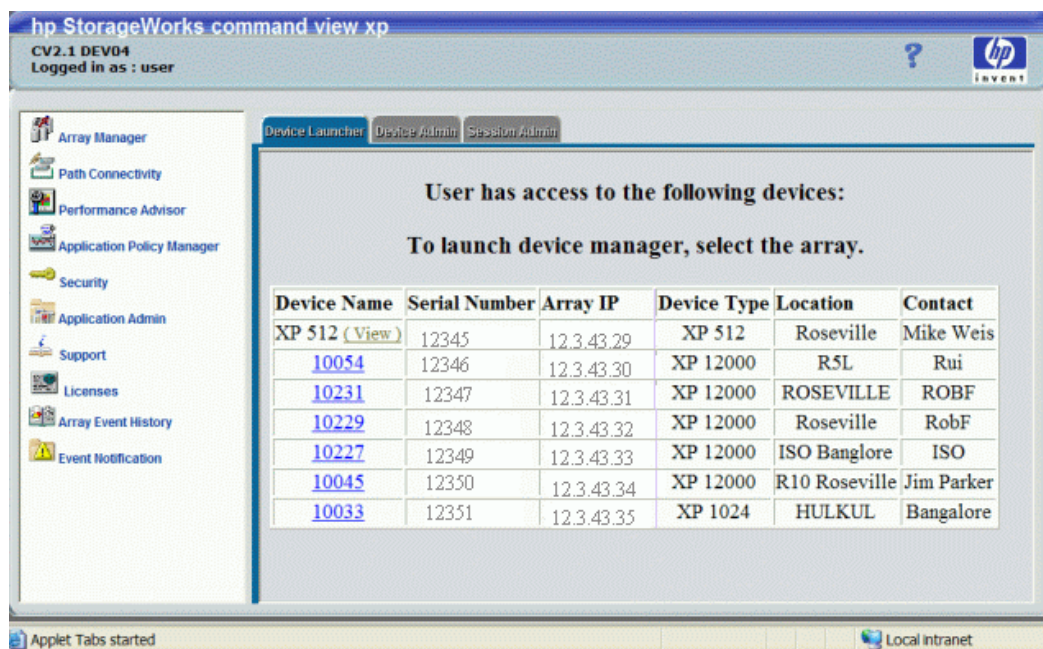

Figure 3 Command View main window
3. After the user name and password are verified, the Command View main window appears (Figure 3).